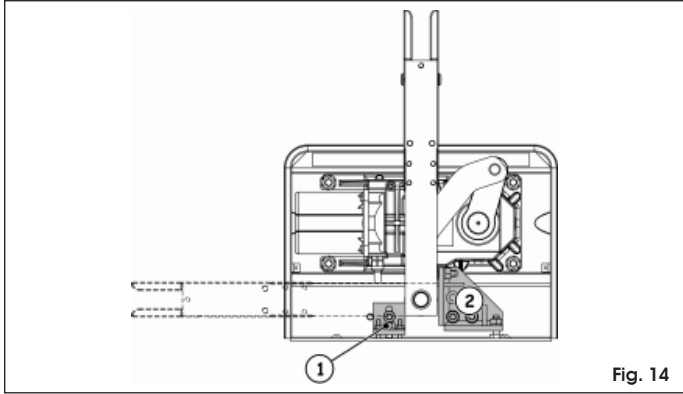

Fig. 14
For systems with 110° and 140° opening it is possible to fit the (optional) open (Fig. 14 rif.①) and close (Fig. 14 rif.②) mechanical stops inside the housing case. For installation details, please refer to the relative instructions.